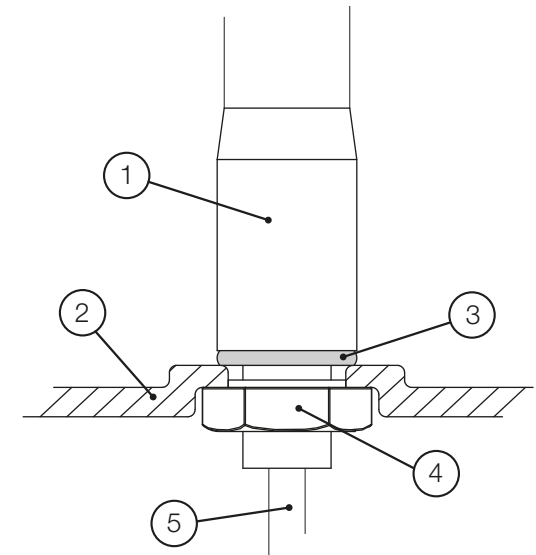

Figure 10. Primary Antenna Installation
- Feed antenna cable through antenna mounting hole; ensure O-ring seal is on the outside face of the enclosure (Figure 10).